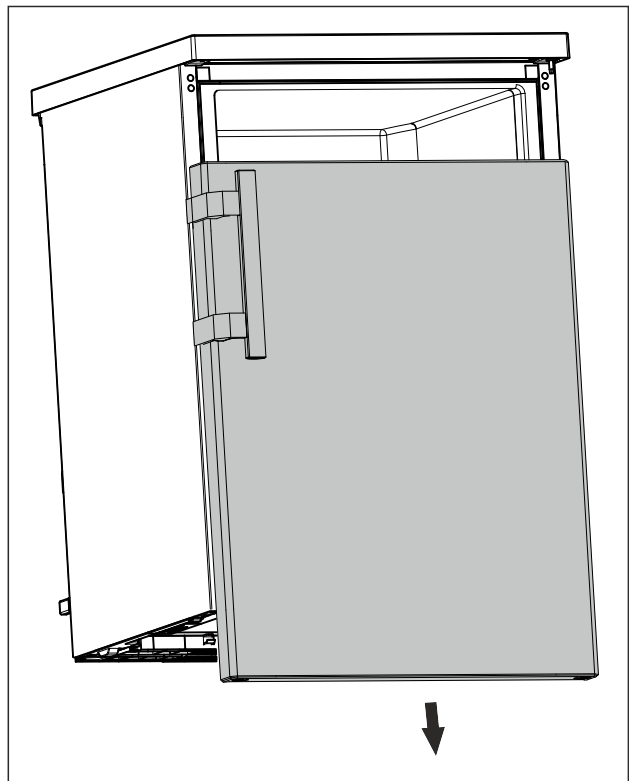

Fig. 17
- ▶ Remove the door downwards. (see Fig. 17)